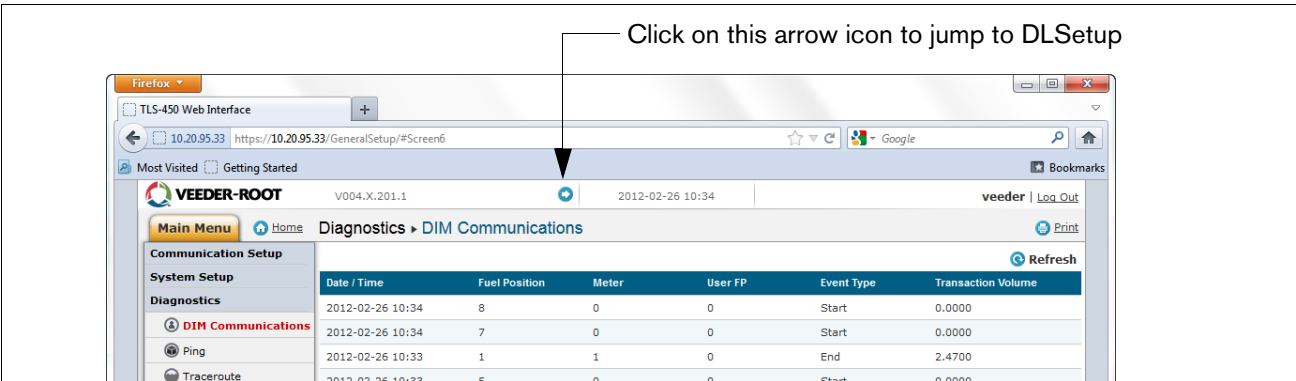

Figure B-13. Switching to DL Setup
15. Click on arrow just to the left of the date to switch to DLSetup application (see Figure B-13).